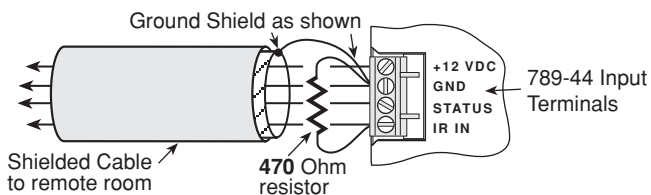

Fig. 4 470 Ohm Capacitance Discharge Resistor
- Inputs: 1 - Screw type 4-terminal plug-in. 1 - IR Receiver "IR RCVR" 3.5mm stereo mini jack. (**See Caution Note, Fig. 4**)
When using long lengths (>50 ft.) of inter-room shielded cable, it may be necessary to connect a 470 Ohm 1/8 Watt resistor between **IR IN** and **GND** at the connector terminals of the 789-44. Refer to **Fig. 4**.